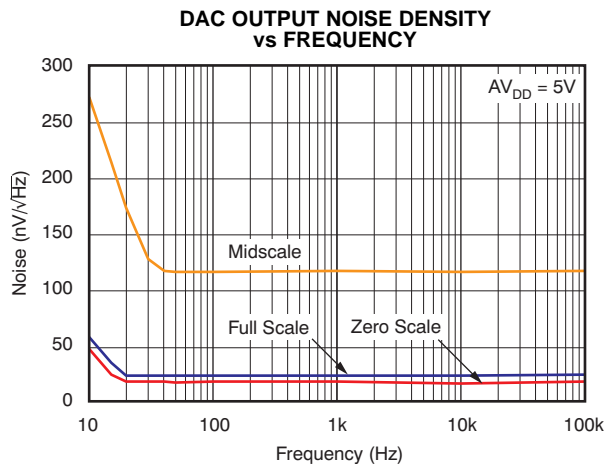

Figure 16.
(1) Linearity calculated using a reduced code range of 3 to 252, output unloaded.
(2) Straight line passing through codes 3 and 252, output unloaded.
(3) Specified by design and characterization, not production tested.
(4) For more details, see Figure 16.